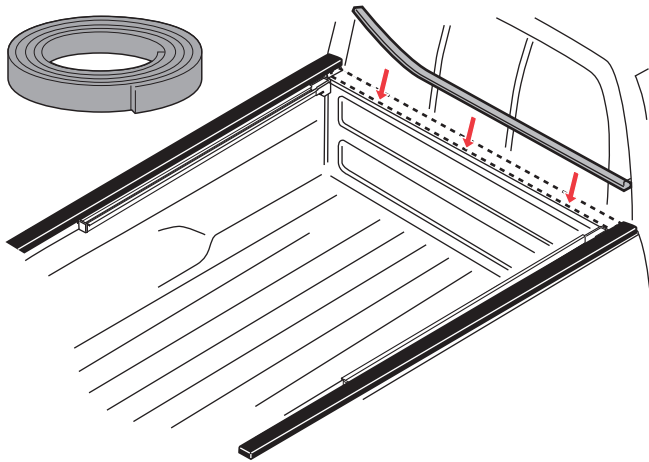

Figure 13
- b) Apply foam seal (included) to front lip of truck bed (below cab rear window) from driver side bed rail cap to passenger side rail cap. (Fig. 13)